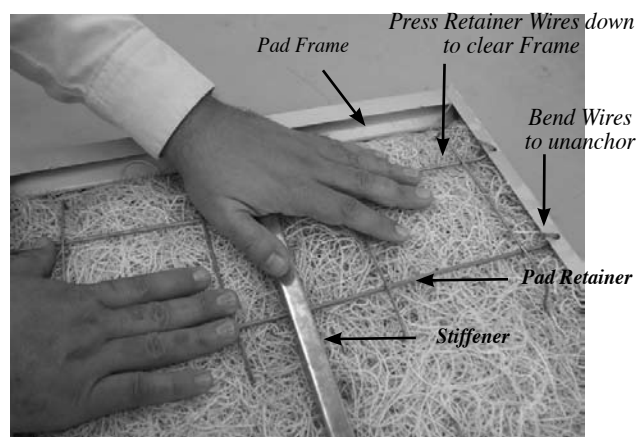

FIGURE 12
2. Remove pad frame stiffener from frame, using caution as stiffener can spring back. Carefully remove all pad from retainers. Remove and discard pads (see Figure 12).